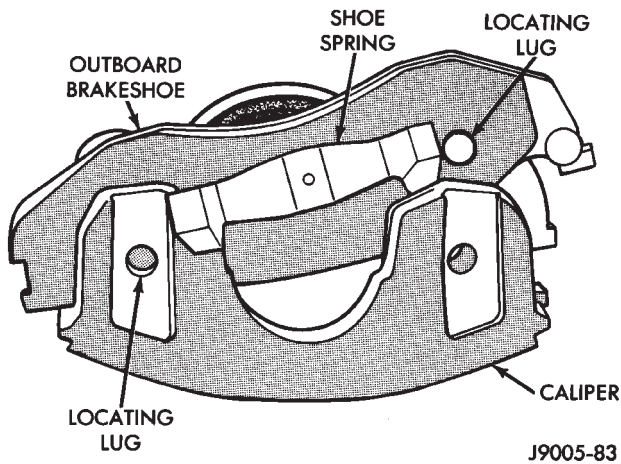

Fig. 7 Removing Outboard Brakeshoe
- (8) Remove outboard shoe. Press one end of shoe inward to disengage shoe lug. Then rotate shoe upward until retainer spring clears caliper. Press opposite end of shoe inward to disengage shoe lug and rotate shoe up and out of caliper (Fig. 7).